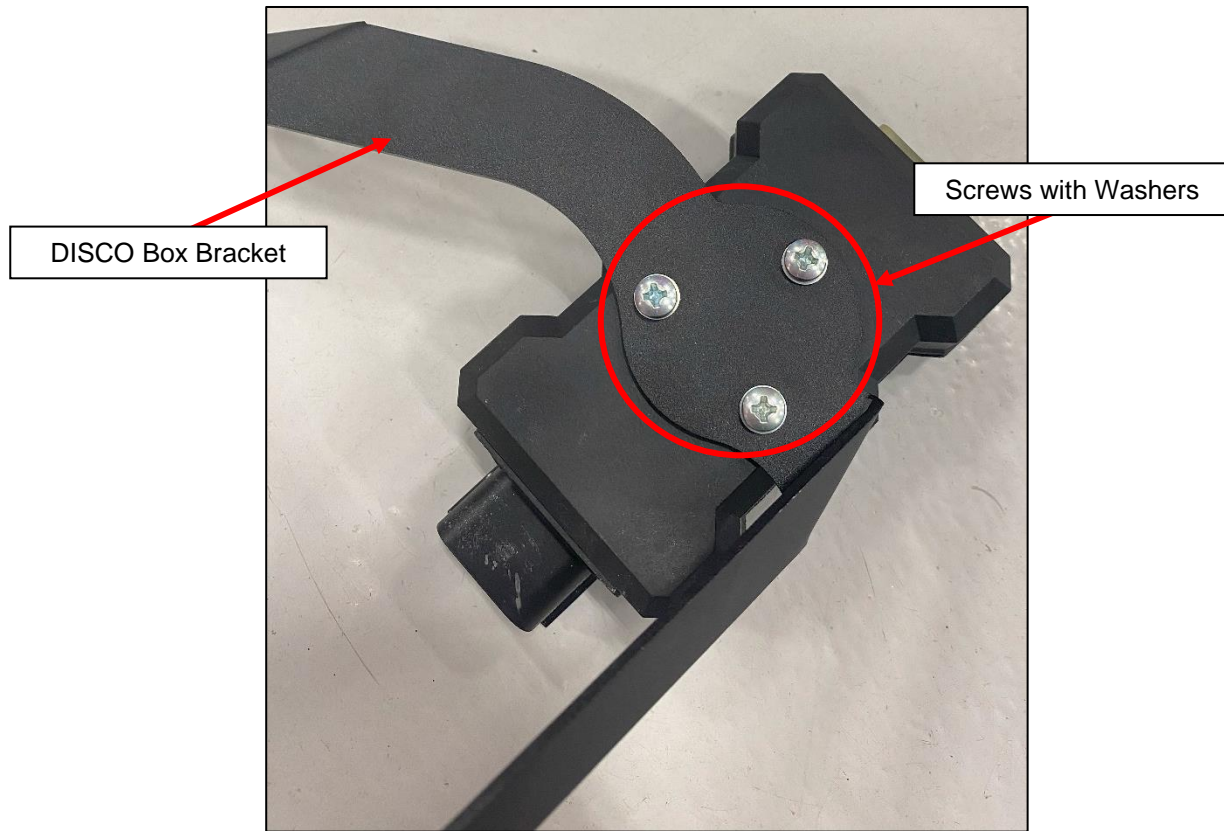

Figure 4
7. After the Rotary Switch is set, reattach the top of the enclosure and secure with the (6) six Philips head screws.
8. Locate the DISCO Box Bracket, (3) three screws, and (3) three washers. Secure the DISCO Box to the Bracket with the hardware as shown below. *Figure 4.*